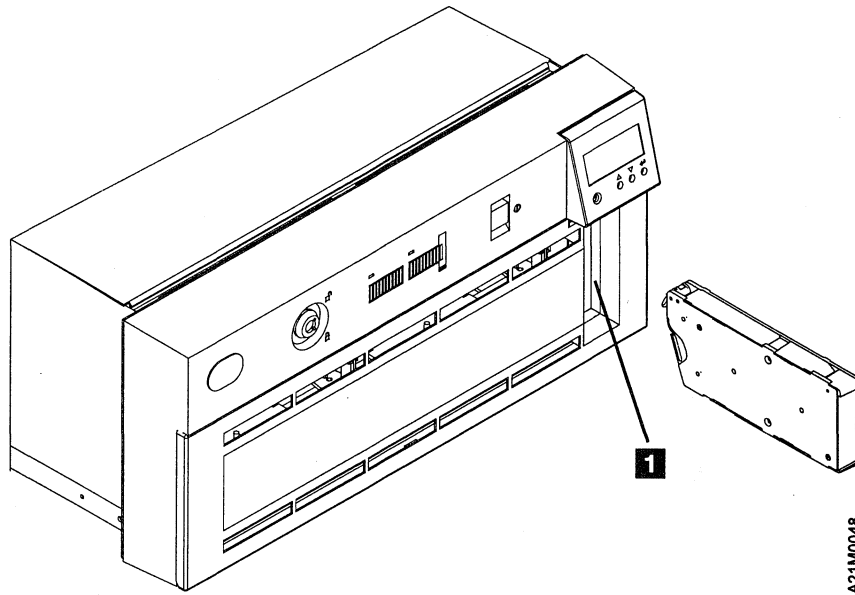

Figure 36. Location of Priority Cell in Library Models
- \_\_\_ 16. Load a scratch cartridge through the priority cell (see **1** in Figure 36 on page 52) to the import position by pushing it gently into the priority cell until it comes to a stop and even with the front of the magazine. Select START from the main Options Menu.
- \_\_\_ 40. Load a scratch cartridge through the priority cell (see Figure 36 on page 52) to the import position by pushing it gently into the priority cell until it comes to a stop, and even with the front of the magazine.